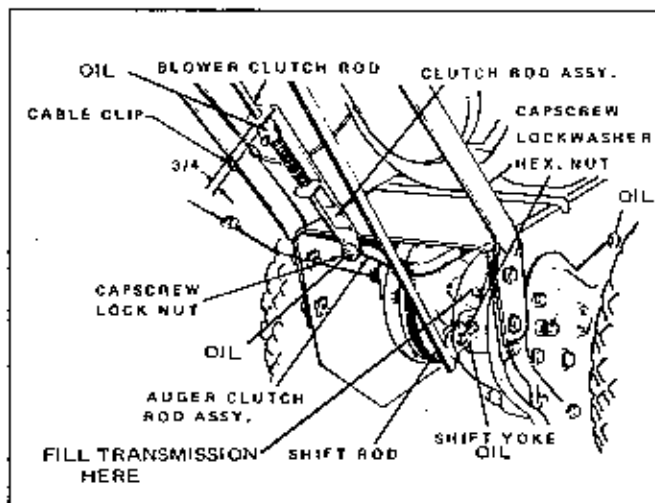
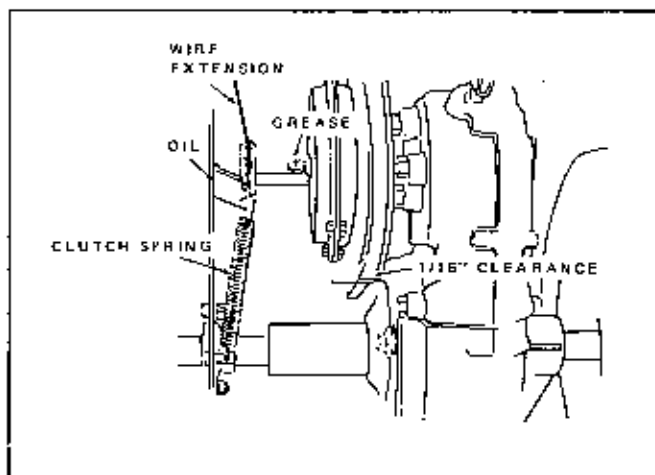

Figure 1.
Figure 2.
1. Fasten the handle assembly to the frame assembly as shown in Figure 1 using (3) 5/16-18 x 7/8" capscrews, (1) 5/16-18 x 1-1/2" capscrews and (4) 5/16" lockwashers which are loosely assembled in the frame. Pull up on the handle assembly and tighten screws while holding in this position.
2. Uncoil the throttle cable assembly from around the engine and attach to the control housing assembly using (2) 10 x 1/2" self-tapping screws. Secure the throttle cable to the left hand handle with (1) cable clip. Position the cable clip approximately 5" above the frame as shown in Figure 1.
3. Assemble the shift rod assembly to the shift yoke on the transmission as shown in Figure 1 using (1) 1/4" x 1" capscrew and (1) 1/4" hex lock nut loosely assembled in shift yoke. Tighten until there is no side play but so rod is free to pivot.
4. Attach the clutch rod assembly to the auger clutch rod assembly as shown in Figure 1 using (1) 1/4" x 1" capscrew and (1) 1/4" hex lock nut loosely assembled in the auger clutch rod assembly. Tighten until there is no side play but so rod is free to pivot.
5. Remove cover from rear of frame assembly by removing (3) self-tapping screws. Insert wire extension through the clutch spring on the pivot assembly as shown in Figure 2. Position wire extension in upper left hand corner of frame assembly and replace cover.
1. There is one grease fitting on this Sno-Away (See Fig. 2). Lubricate with a general purpose automotive type grease every 15 hours of operation. Also the occasional application of light motor oil as indicated on Fig. 1, 2 and 4 will assist in operation of this Sno-Away.
4. The filler plug on the transmission is located at the rear of the unit on the top of the transmission. The transmission should be filled to the level of the oil level plug which is located on the right side of the transmission. (See Fig. 1). The drain plug is located at the bottom of the transmission.
5. Belt tension for the rotor drive is regulated by the position of the set collar on the rotor clutch rod. Normally a clearance of 3/4" between the set collar and top bracket will properly tension this belt. Check this adjustment when the rotor clutch is engaged. Refer to Fig. 1.